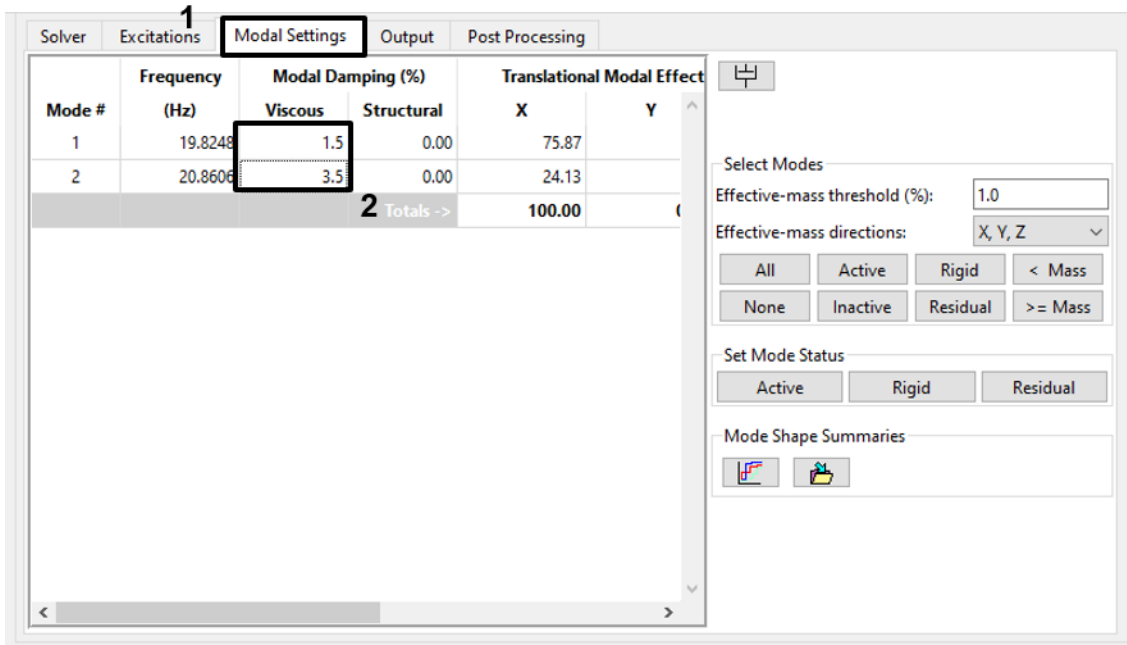

Figure 4-19. With only two modes, you can assign damping directly in the damping table.
4. On the *Modal Settings* tab, assign 1.5% damping to mode 1 and 3.5% damping to mode 2. Double-click in the *Viscous* cell under *Modal Damping (%)* for each mode and entering the proper value (Figure 4-19).